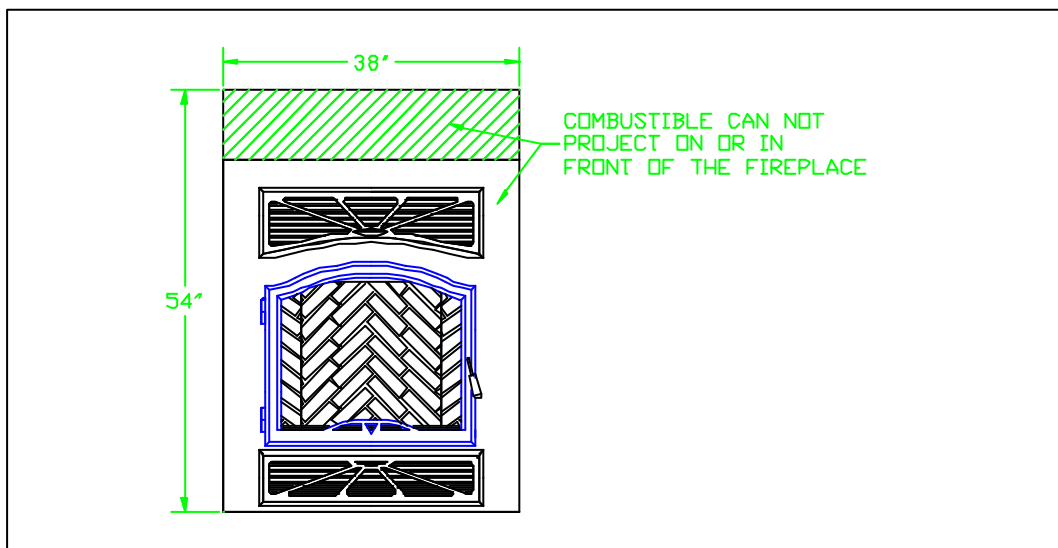

Figure 15
1. Combustible wall (such as Gyproc) must be installed flush with the fireplace. It may not project in front of and on the fireplace (i.e. the steel façade of the fireplace) (figure 15).
2. Decorative frame made of combustible material cannot project in front of and on the fireplace steel front, in the space delimited by the width of the unit (38") and a height of 54" from the base of the appliance. (figure 15).